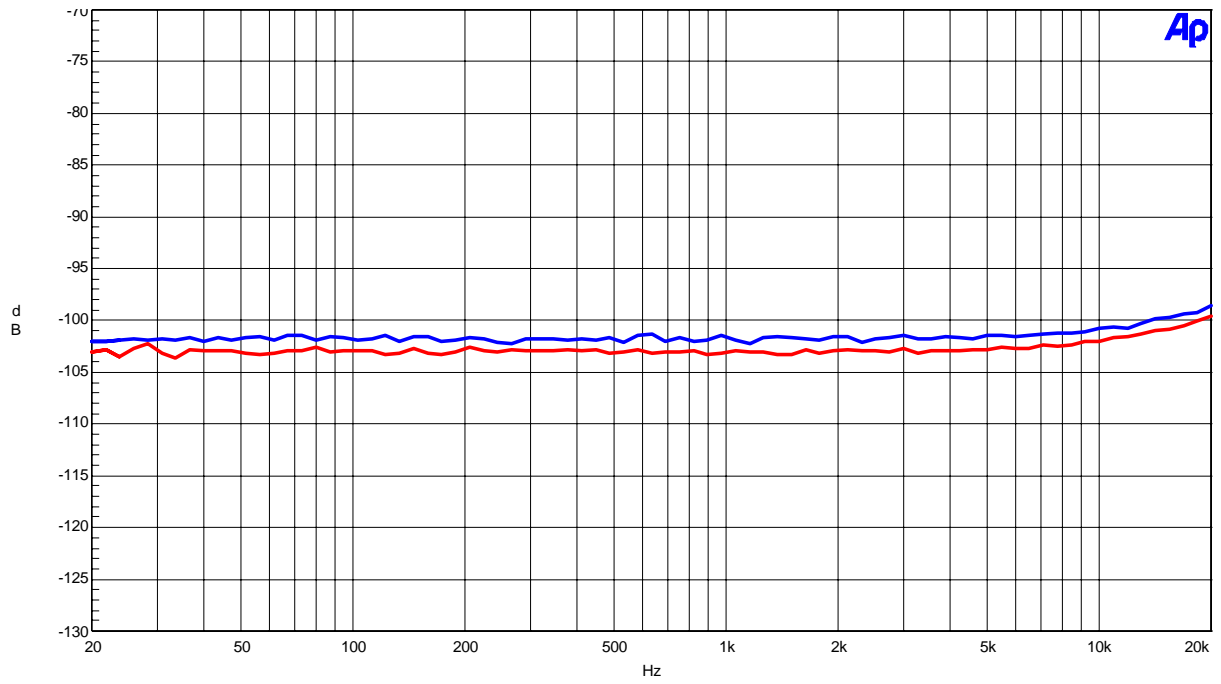

Figure 16. Cross-talk (Input Level=0dBFS)
- Figure 16. Cross-talk (Input Level=0dBFS)